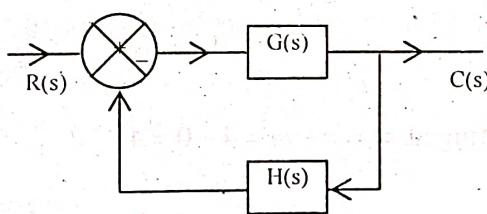

Fig: 1
a) Let us consider a system (figure 1) with